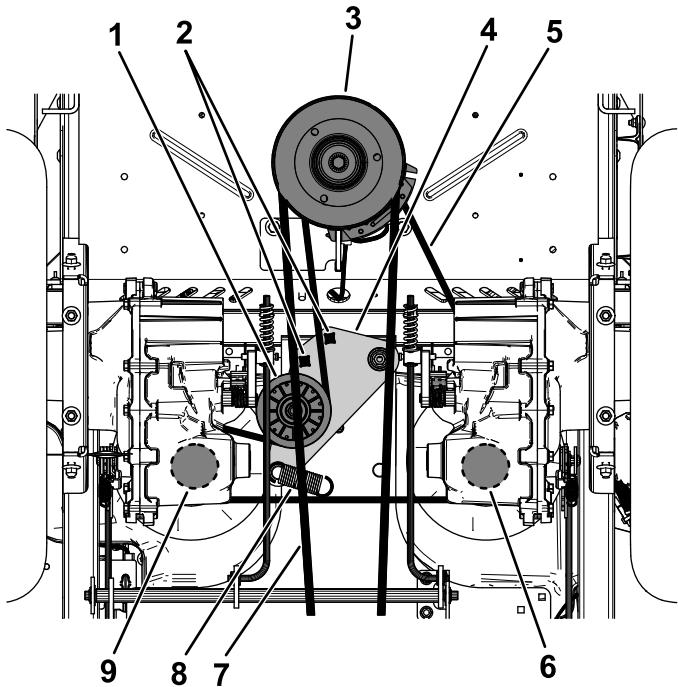

Figure 70
5. Use a 1/2-inch ratchet or breaker bar in one of the square holes in the idler arm to remove tension on the idler spring (Figure 70).
6. Remove the existing belt from the idler pulley, 2 hydraulic-pump-drive pulleys, and engine pulley (Figure 70).
7. Install the new belt around the idler pulley, engine pulley, and 2 hydraulic-pump pulleys (Figure 70).